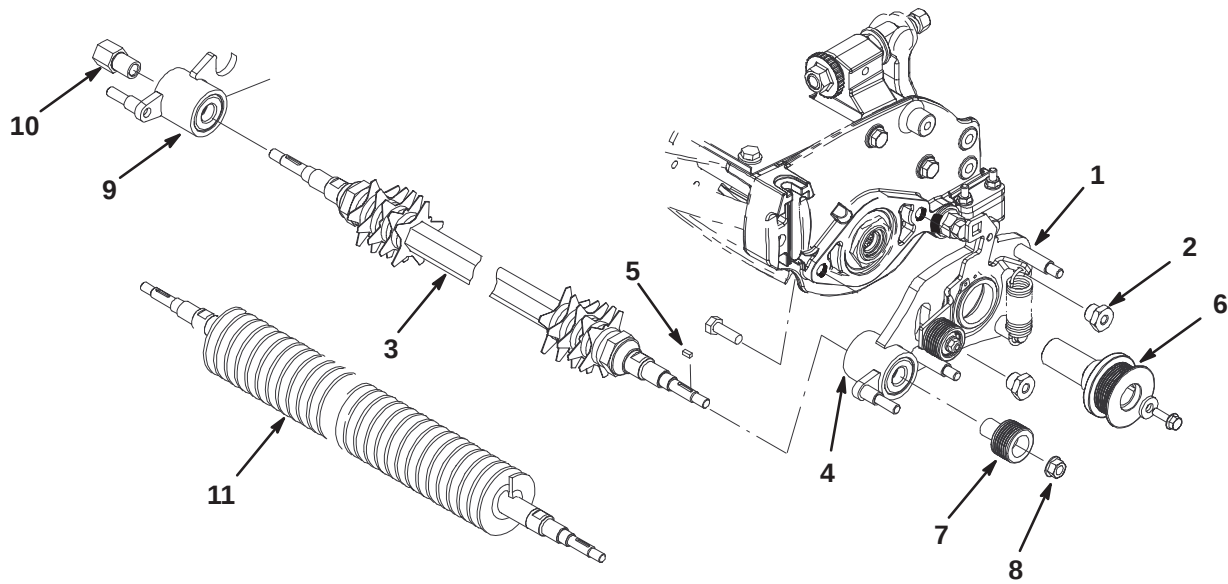

Figure 4
6. Remove nut securing the driven pulley to the end of the groomer shaft (Fig. 4). Remove pulley.
7. Remove key from keyway in groomer shaft (Fig. 4).
8. Remove the flangehead capscrew and washer securing groomer drive pulley to the reel shaft (Fig. 4). Remove pulley.
9. Remove the (2) shoulder nuts securing the groomer drive assembly to bearing housing and side plate (Fig. 4).
10. Remove the groomer drive assembly from the bearing housing and mounting bolts (Fig. 4).
11. On right end of cutting unit, remove the seal nut securing the groomer shaft to side plate bearing support (Fig. 4).